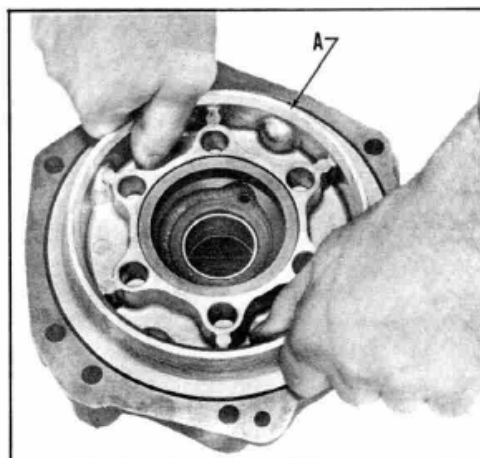

Figure 23
10. Remove the reverse piston (A) by pulling piston straight out, Figure 23. (The piston is located by four dowels and cannot be turned.)